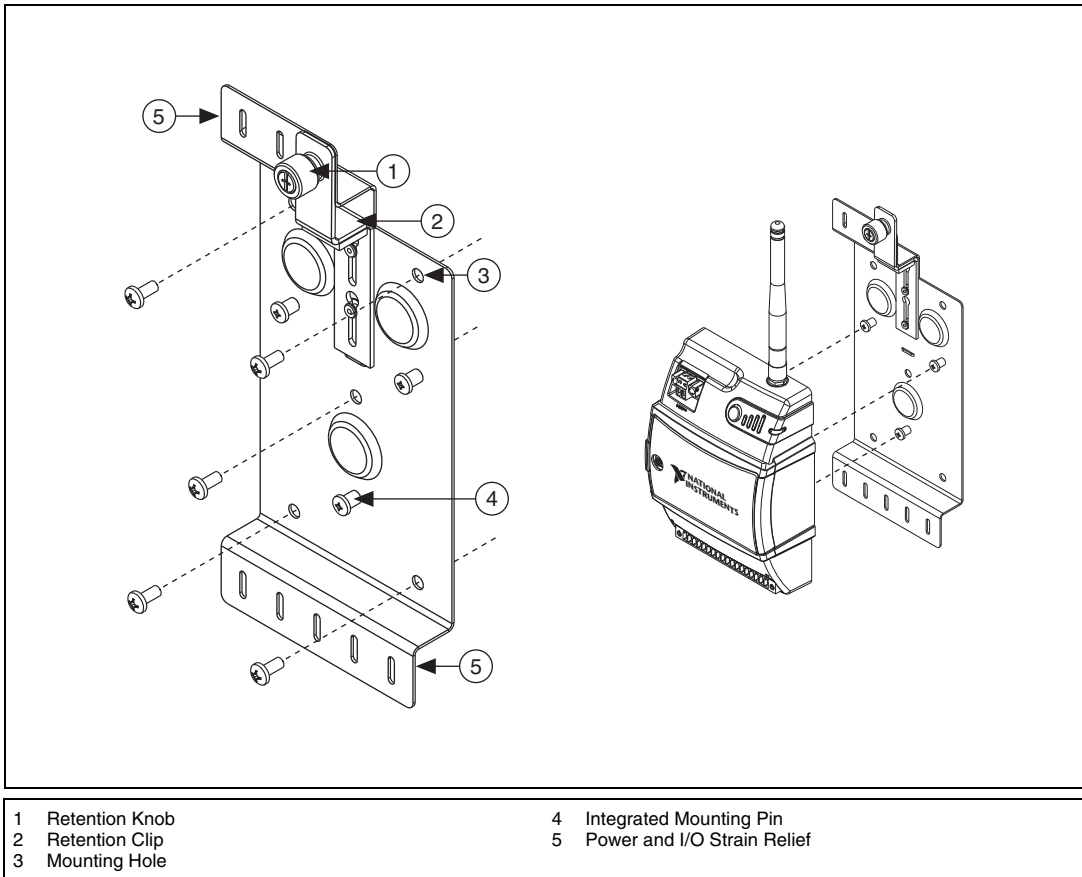

Figure 8. Panel Mount Accessory
Refer to Figure 8 while completing the following steps to mount the NI WSN-3212 on a panel:
2. Slide the NI WSN-3212 device into the panel mount accessory as shown in Figure 8.